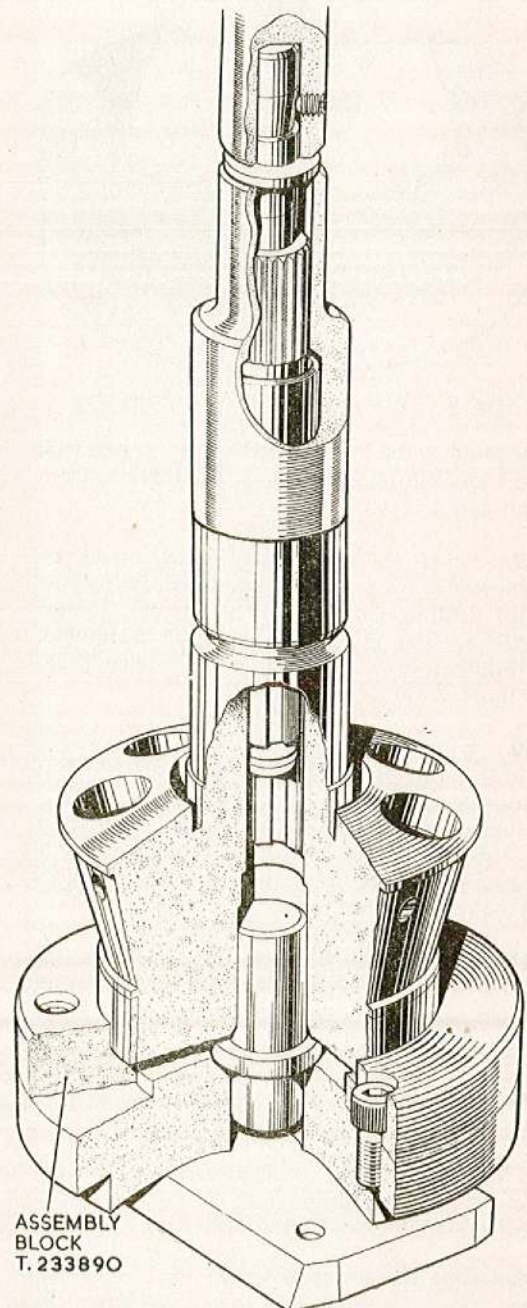
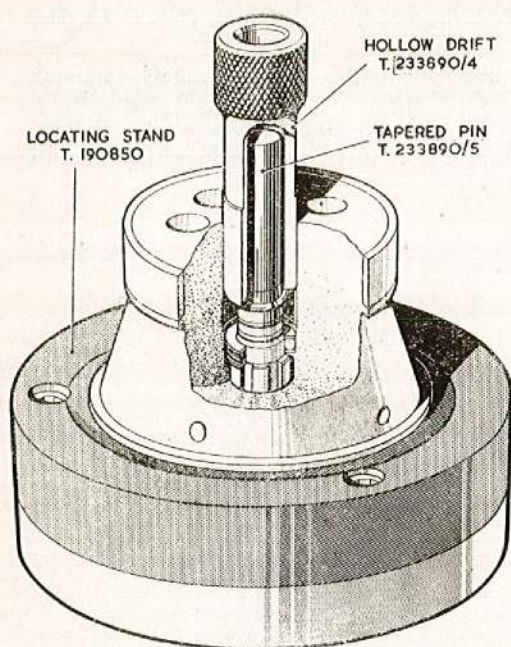

Fig. 7. Assembling the drive shaft to the rotor
Fig. 8. Fitting the drive shaft spring-ring
(1) Fit a new sealing ring in the drive shaft groove.
(2) Using the fixture T.233890 (fig. 7), position the base assembly of the fixture on the hand-press baseplate then mount the rotor in the machine recess, drive shaft uppermost.
(3) Place the locating sleeve over the rotor extension, select the new drive shaft and lower the shaft through the sleeve into the rotor.
(4) Insert the punch into the hand-press ram block, lower the ram so that the brass end of the punch contacts the shaft and apply a load to force the shaft into the rotor bore.
(5) Remove the rotor complete with drive shaft from the press, place the rotor on a surface table and with a vernier height gauge, check the dimension from the base of the rotor to the shaft extremity. The limits are 7.031 in. $\pm$ 0.0125 in. for types GD 10/9J and GD 5/3C, and 6.911 in. $\pm$ 0.0125 in. for type GD 7/5E.
(6) Mount the rotor horizontally on V-blocks and with a dial test indicator and stand, check the concentricity of the drive shaft at its extremity. If the run-out is more than 0.008 in., remove the drive shaft from the rotor and turn it through 180 degrees in relationship to the spline engagement in the axial bore of the rotor. Re-fit the shaft and again check the height and concentricity. If unsatisfactory, fit a replacement and re-check it.
(7) When satisfactory, place the rotor on the stand T.190850. Insert the shim washer, rubber seals and second shim washer into the axial bore of the rotor, place the retaining spring-ring on the centre spindle T.233890/4 as shown in fig. 8. Lower the ring and spindle into the rotor bore and locate the hollow drift T.233890/5 over the spindle. Place the whole assembly under a hand press, bring the ram block down to contact the drift and apply a sharp load to spread the spring ring into the groove of the drive shaft.
(8) Remove the rotor from the press and repeat the checks for height and concentricity as in sub. para. (5) and (6).